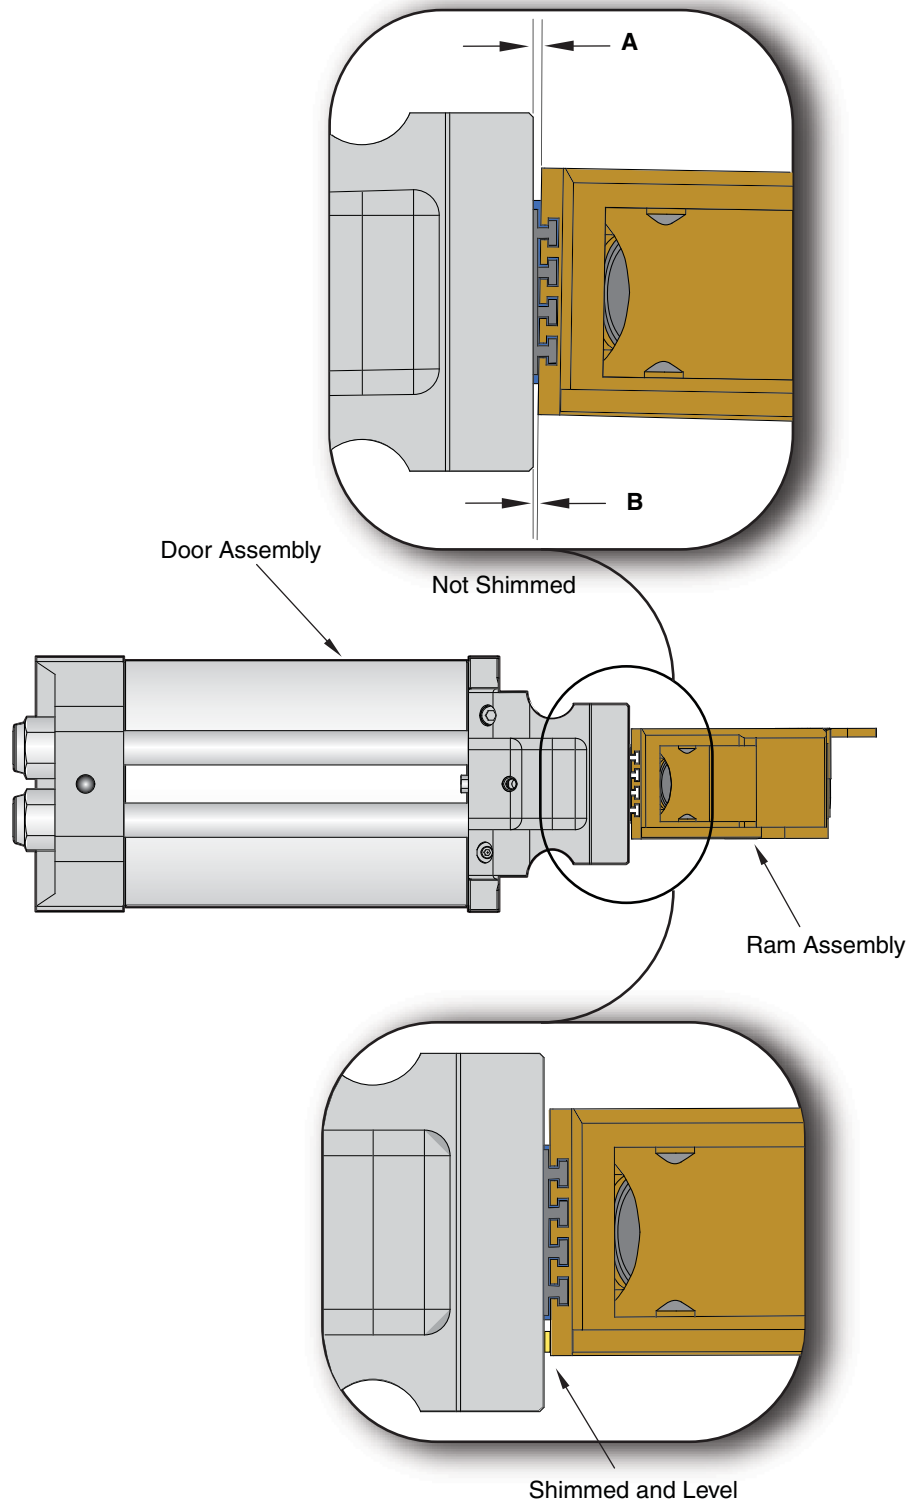

Figure 5-81. NXT Door Shimming
When the NXT BOP doors are open, this movement may allow the ram assemblies to hang downward. In this position the ram assemblies may not be in alignment with the cavity in the preventer body (see Figure 5-81 on page 5-104).
The purpose of the block leveler is to support the weight of the ram assemblies in a horizontal position. The shims are used to adjust the proper alignment of the ram assemblies with the cavity in the BOP body (see Figure 5-81 on page 5-104).
3. With inside calipers, measure the distance between the door face and the lower and upper portion of the ram holder (see Figure 5-81 on page 5-104).